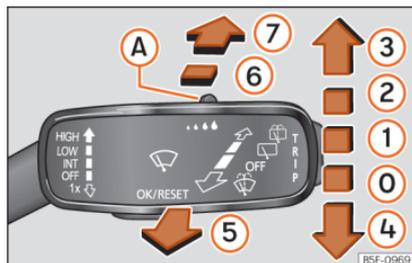

Fig. 106 Operating the windscreen wiper and rear wiper.
| 1 | INT | Wiper intervals. Use control »» Fig. 106 (A) to set the interval (vehicles without rain sensor), or the sensitivity of the rain sensor. |
| 2 | LOW | Slow sweep adjustable by using control »» Fig. 106 (A). |
| 3 | HIGH | Fast sweep adjustable by using control »» Fig. 106 (A). |